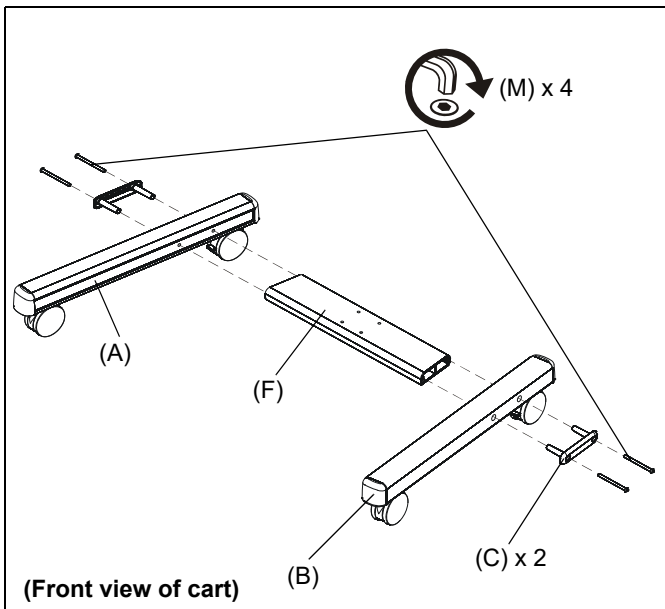

Figure 1
1. Assemble two legs (A) and (B) to the cart cross bracket (F) using two 5/16-18 x 4-1/2" button head cap screws (M) through one end cap (C) per leg. (See Figure 1)